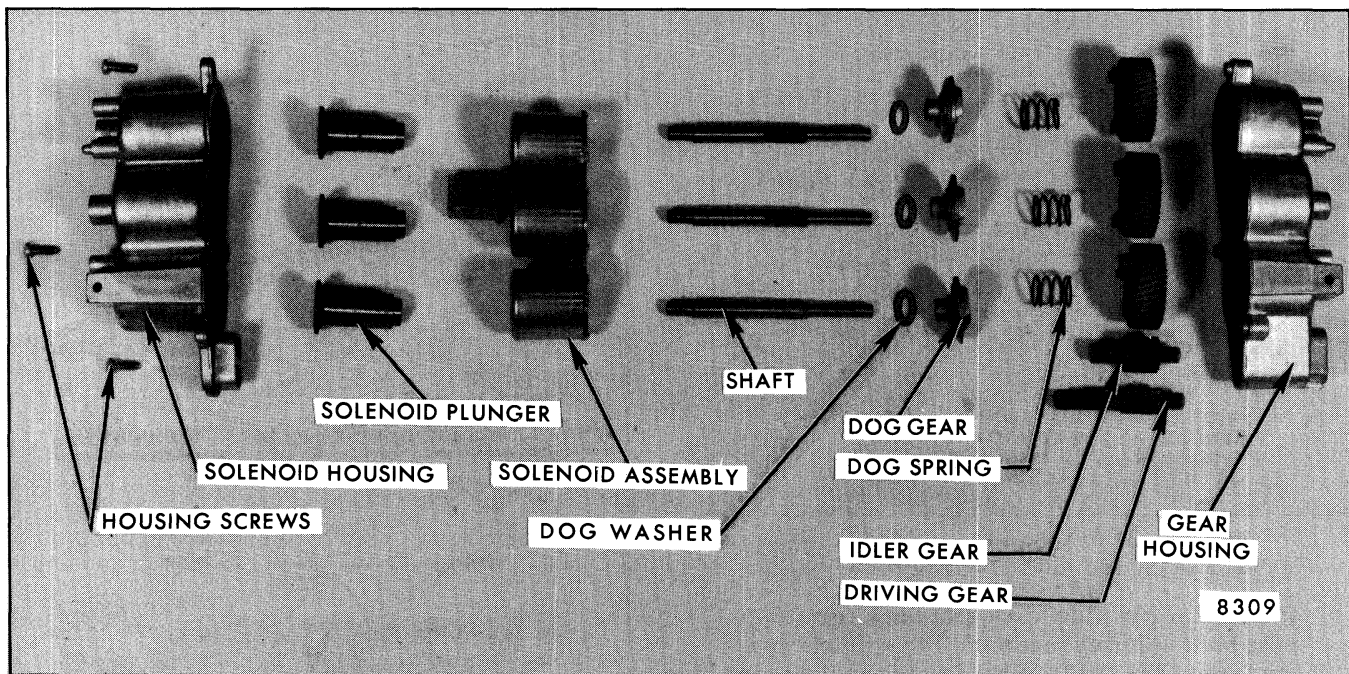

Fig. 9-30-Six-Way Seat Adjuster Transmission Component Parts for 60-40, 50-50, 40-40 and Bucket Seats
2. Remove screws securing rear gear housing to the solenoid housing; then carefully separate housings and remove component parts of transmission assembly (Fig. 9-30 or 9-31).